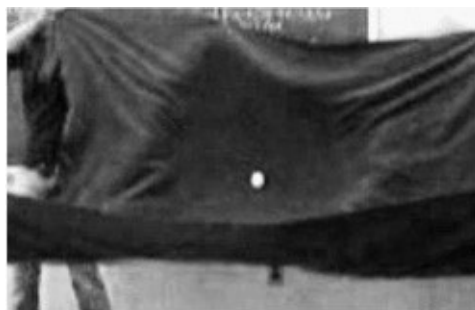

Figure 54-1 *Throwing a raw egg at a blanket.*
1. Hold the blanket vertically, with the bottom edge curled out to form an overhang, as shown in Figure 54-1. This requires at least two people.